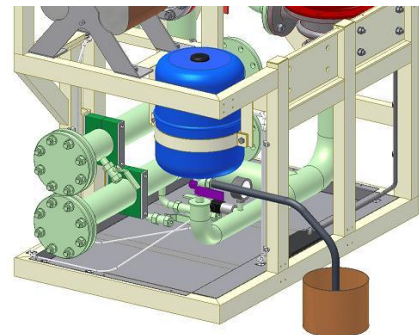

Figure 4.2-7
3. Turn the lever (marked violet in Figure 4.2-7) on valve V160 90° so that it points towards you. This will close off the primary circuit and therefore only the liquid in the expansion vessel will come out. (There is line mark in the end of the stem, where you can also ensure the right position of the 3-way valve. This mark shows the open flow direction.)